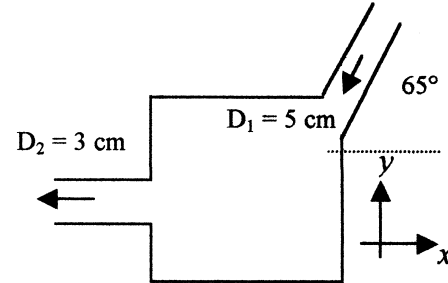

Fig. P3.56
3.56 Water at 20°C flows steadily through the box in Fig. P3.56, entering station (1) at 2 m/s. Calculate the (a) horizontal; and (b) vertical forces required to hold the box stationary against the flow momentum.